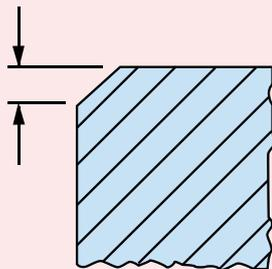

Figure 2: 1x45 minimum chamfer
- To avoid chipping the edges during turning, boring or milling, chamfered edges are advantageous, providing a smoother transition between the cutting tool and the plastics work. Refer to figure 2.